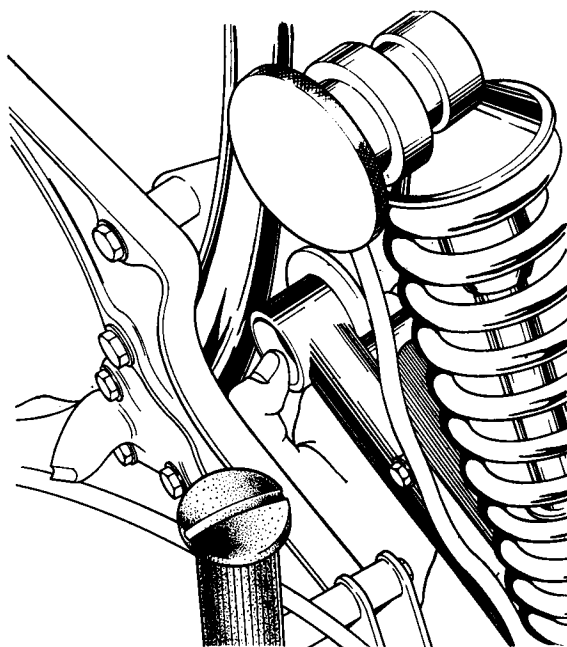

Fig. F7 Swinging arm offered into position with end cap held in place with grease
- 24 The left side pivot end cap must be held or "stuck" in position with a dab of grease as the swinging arm is positioned (see *Fig. F7*). Push the swinging arm forward so that the left end cap is held in position by the inner chaincase.